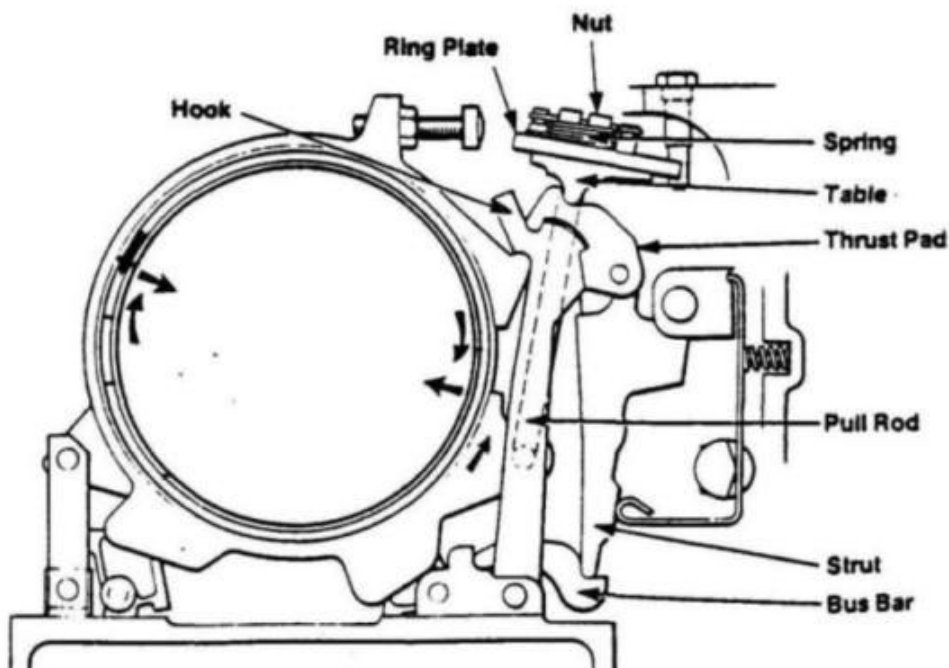

Fig 5.2 SELECTOR, STRUT AND BRAKE
5.3 Selector mechanism. (Fig 5.2) Selection of a gear at the hand control rotates the short lever on the outside of the selection cover which turns the quadrant gear on the inside of the cover. This is in mesh with the skew gear cut on the camshaft so causes the camshaft to turn. The camshaft is obverse-cut and when the full part at any gear position is against the strut guide the guide is pushed back against its spring. If the camshaft is turned to place the cut-away part to the strut guide the guide spring can push the guide and the strut forward. The quadrant and skew gears are punch marked for correct assembly. Across the top of the selector cover is an interlock block with slots to allow the strut ears to pass through. The floating plungers in the interlock cross drilling permit only one ear to pass so, if two struts attempt to rise, neither can pass the interlock. A neutral strut is pivoted on the interlock block.
5.4 Pre-selection and gear engagement. (Fig 5.2) The amount of travel each strut guide is allowed is about $\frac{1}{2}$ inch. With the gearbox assembled the strut return springs keep their struts pressed back against their guide. This leaves a gap of about $\frac{1}{8}$ th inch between strut and bus-bar. When a gear is selected the camshaft is turned so that the cut-away is presented to the guide, allowing the guide spring to push guide and strut forward until the strut is against the bus-bar, but the guide still has most of its allowable travel in hand. If there is a gear already in use, the full part of the camshaft which is next to its strut guide is turned against the guide, pushing it fully back against its spring. The gear is now SELECTED. To engage the selected gear, the GCP is pressed down, which pivots the bus-bar to its lowest position (against the gearbox floor). The strut of the gear which was engaged is flicked out of the bus-bar and back against its guide. For the selected gear, the guide spring pushes the guide for the rest of its travel which pushes the toe of the strut over the bus-bar groove. When the GCP is released, the main spring raises the bus-bar which lifts the selected strut to engage the gear. The gear is now ENGAGED.